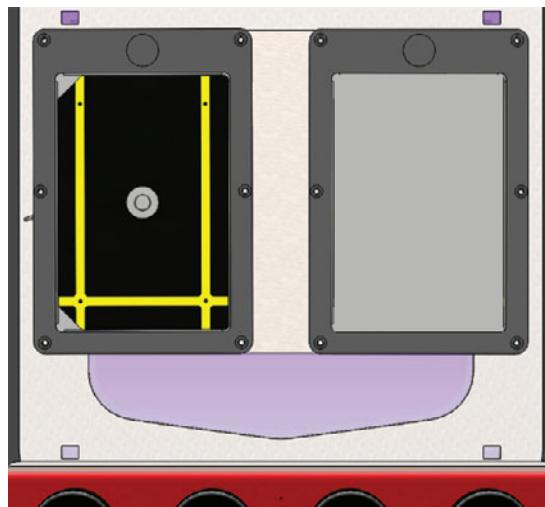

Figure 3. Microtiter calibration guide in rack 2.
- Place the **Microtiter Calibration Guide** in the left plate so that the intersecting yellow lines are closest to the quad stirrer (*Figure 3*).